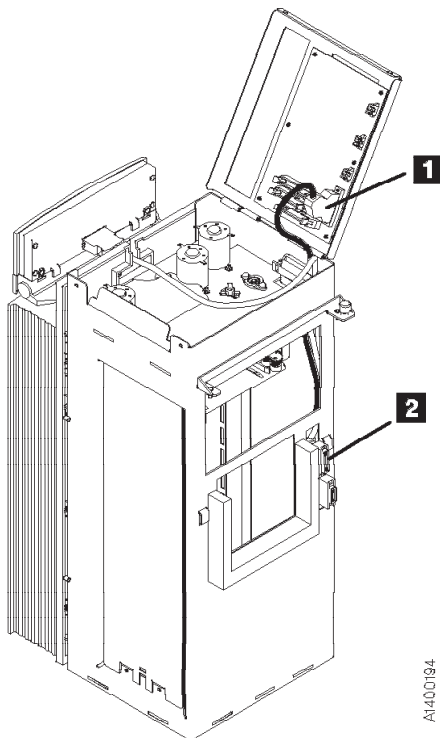

Figure 10-29. Drive/ACF Cable
4. See Figure 10-29. Disconnect the drive/ACF cable connector from the CD1 connector **1** on the motor control card.